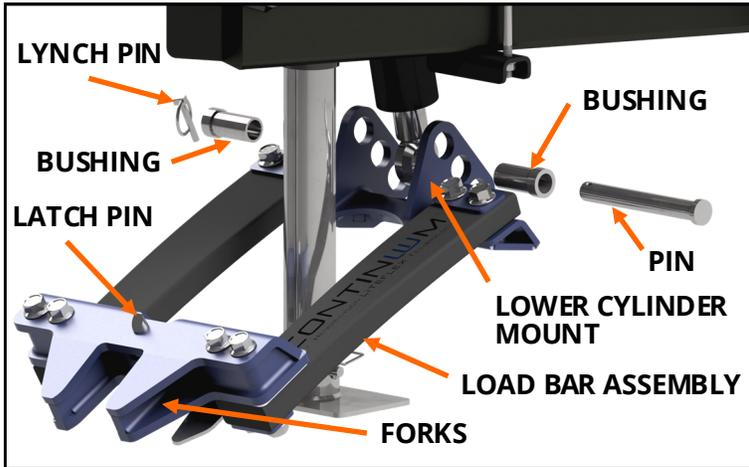

FIGURE F1: View of the load bar assembly under the trailer.
2. **Attach the load bars to the hydraulic cylinder.** Retrieve the load bar assembly. Remove the pin and bushings from the lower cylinder mount. Raise the trailer jack high enough that the load bar assembly can slide under it. Pin the hydraulic cylinder to the center hole in the lower cylinder mount using the removed pin and bushings, see **Figure F1**.